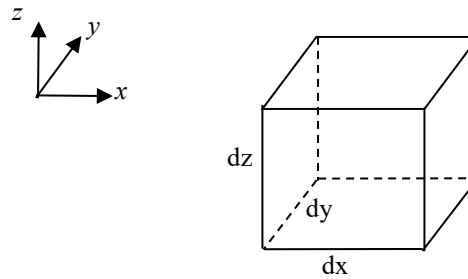

Figure 1
- (1). (a). **Figure 1** shows an infinitesimal volume taken from an interior of an elastic body under the action of external load. Show all the stress components (in Cartesian coordinate system) acting on the infinitesimal volume.